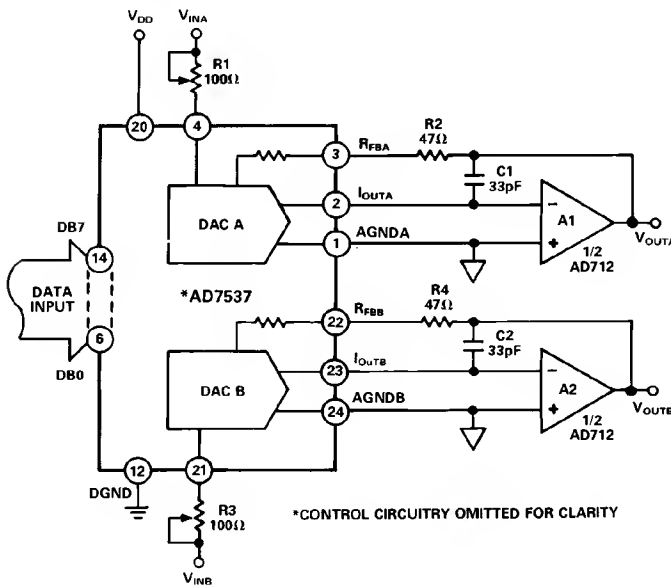
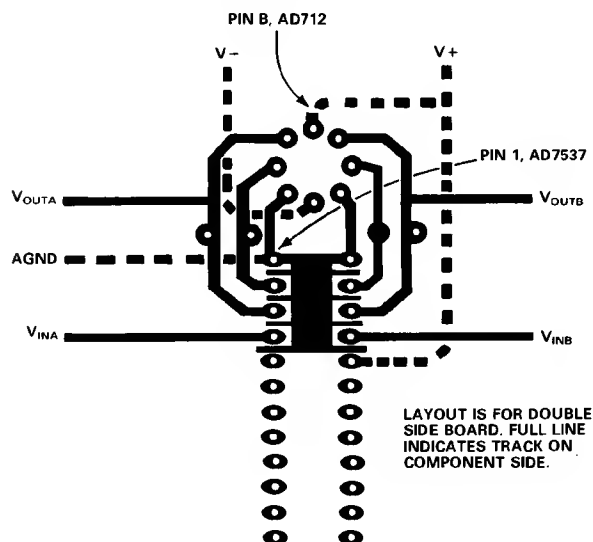

Figure 4. AD7537 Unipolar Binary Operation
Figure 8. Suggested Layout for AD7537
current flowing in each ladder leg is constant, irrespective of switch state. The feedback resistor RFBA is used with an op amp (see Figures 4 and 5) to convert the current flowing in IOUTA to a voltage output.
Figure 4 shows the circuit diagram for unipolar binary operation. With an ac input, the circuit performs 2-quadrant multiplication. The code table for Figure 4 is given in Table II.
Table II. Unipolar Binary Code Table for Circuit of Figure 4
**Output Offset:** CMOS D/A converters in circuits such as Figures 4 and 5 exhibit a code dependent output resistance which in turn can cause a code dependent error voltage at the output of the amplifier. The maximum amplitude of this error, which adds to the D/A converter nonlinearity, depends on  $V_{OS}$ , where  $V_{OS}$  is the amplifier input offset voltage. To maintain specified operation, it is recommended that  $V_{OS}$  be no greater than  $(25 \times 10^{-6}) (V_{REF})$  over the temperature range of operation. Suitable op amps are the AD711C and its dual version, the AD712C. These op amps have a wide bandwidth and high slew rate and are recommended for wide bandwidth ac applications. AD711/AD712 settling time to 0.01% is typically 3  $\mu$ s.
**Temperature Coefficients:** The gain temperature coefficient of the AD7537 has a maximum value of 5 ppm/ $^{\circ}$ C and typical value of 1 ppm/ $^{\circ}$ C. This corresponds to worst case gain shifts of 2 LSBs and 0.4 LSBs respectively over a 100 $^{\circ}$ C temperature range. When trim resistors R1 (R3) and R2 (R4) are used to adjust full scale range as in Figure 4, the temperature coefficient of R1 (R3) and R2 (R4) should also be taken into account. For further information see "Gain Error and Gain Temperature Coefficient of CMOS Multiplying DACs", Application Note, Publication Number E630c-5-3/86 available from Analog Devices.
**High Frequency Considerations:** AD7537 output capacitance works in conjunction with the amplifier feedback resistance to add a pole to the open loop response. This can cause ringing or oscillation. Stability can be restored by adding a phase compensation capacitor in parallel with the feedback resistor. This is shown as C1 and C2 in Figures 4 and 5.
**Feedthrough:** The dynamic performance of the AD7537 depends upon the gain and phase stability of the output amplifier, together with the optimum choice of PC board layout and decoupling components. A suggested printed circuit layout for Figure 4 is shown in Figure 8 which minimizes feedthrough from  $V_{REFA}$ ,  $V_{REFB}$  to the output in multiplying applications.